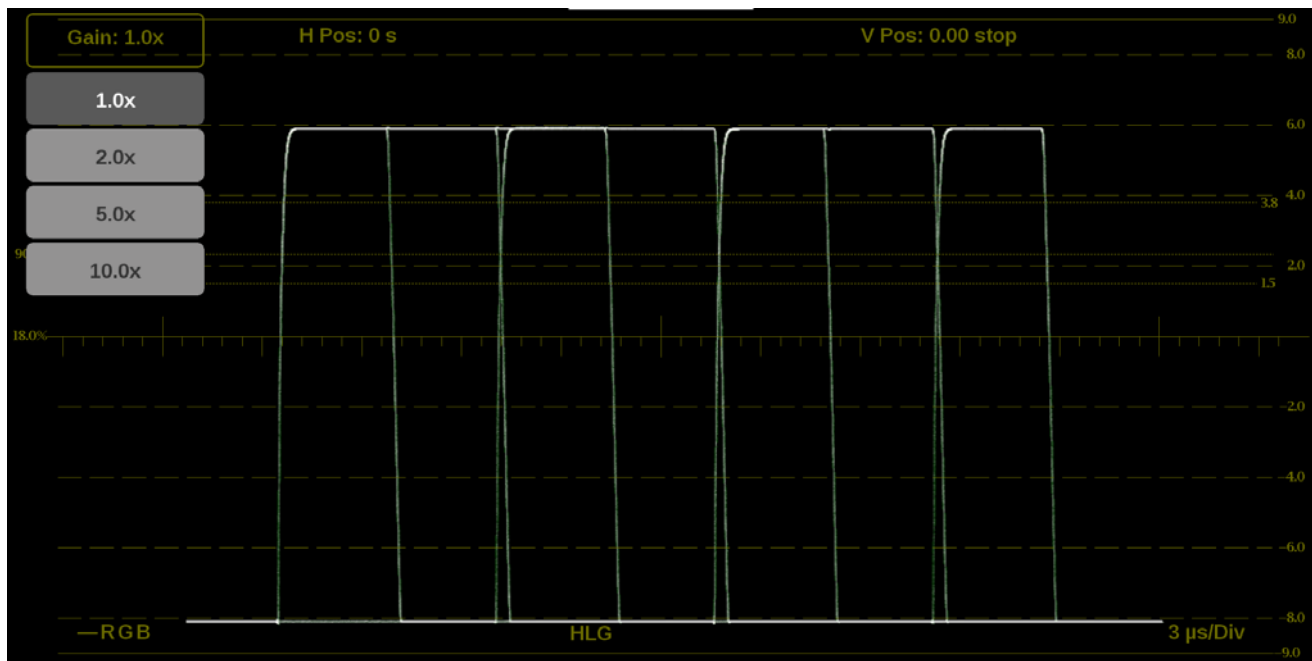

Figure 84: Stop Display on-screen tools – Gain
1. Touch the **Gain** button to expand the available magnification options drop down list. (See Figure 84.)